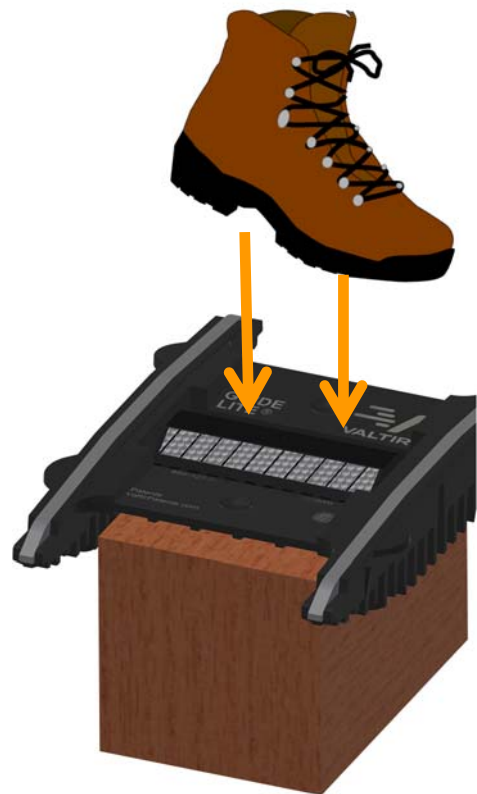

Figure 10 - Placing the Reflector onto the GUIDE LITE® Marker Body with the center section fully supported by a wood block or similar object.
3. Now, place the reflector into the marker body pocket. With the marker body supported by the wood block as shown in Figure 10, apply foot pressure (approximately 150 lbs) for 3 to 5 seconds. The Liquid Nails adhesive should flow out around the edges of the reflector as an indicator that the adhesive completely covers the entire bottom of the reflector. If any excess adhesive gets onto the reflector lens, wipe the lens clean using a moist cloth immediately.